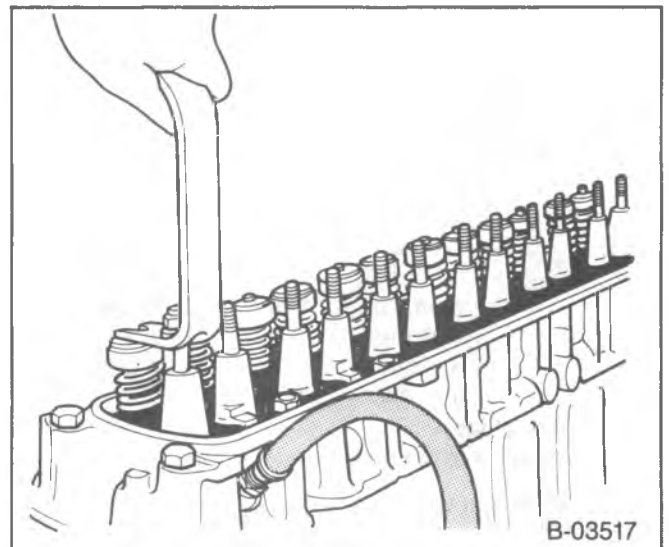

Figure 6—Compressing The Valve Springs
4. Valve keepers (20).
- Install a rocker arm nut (figure 6).
- Use J-5892-B to compress the valve spring (figure 6).
1. New seal (24) (intake valve only). Install the seal over the valve stem and seat it against the head.
2. Spring (26) with the damper (25), shield (22) and rotator (21).
3. New O-ring seal (23) and valve keepers (20).
- With air pressure applied to the cylinder with J-23590, compress the spring with J-5892-B (figure 6).